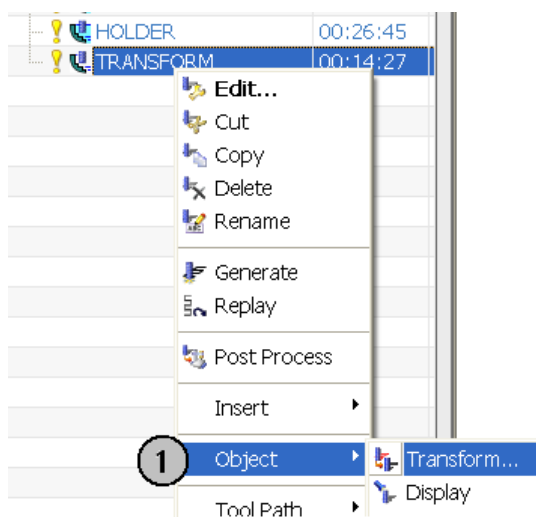

Figure 8.12. "Transform..." command activation
46. Go to the **Object** option — figure 8.12 (1) and select the **Transform...** command.